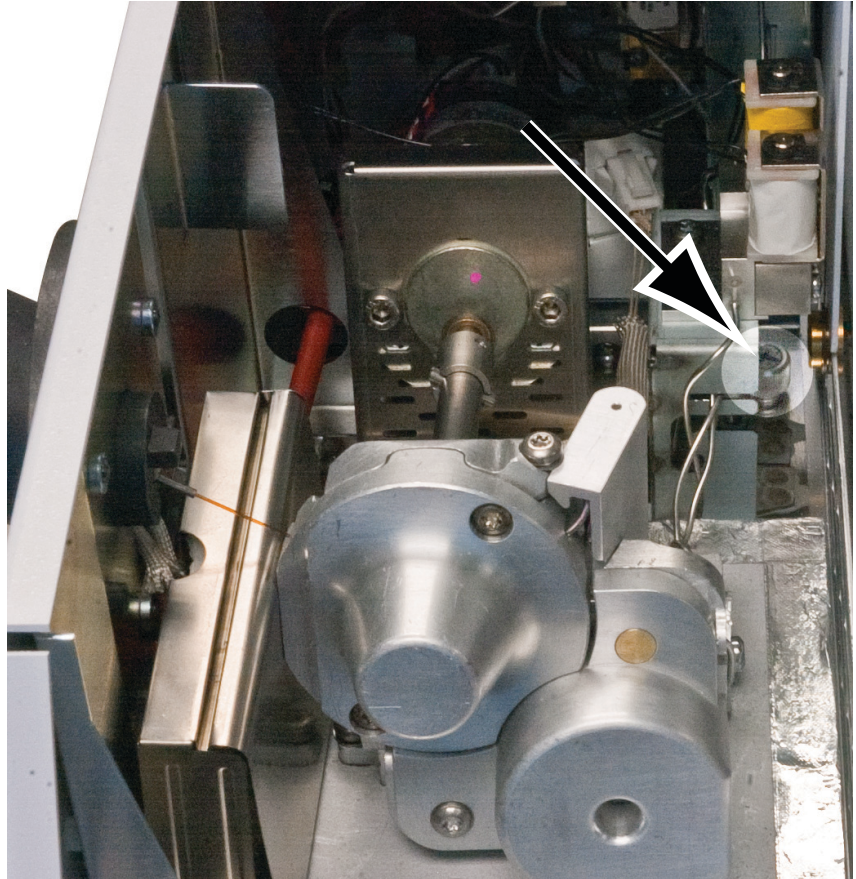

Figure 8 Overhead view of the middle thumbscrew securing the pneumatics assembly
- 8 Completely loosen the T-20 Torx captive thumbscrew at the middle of the pneumatics assembly near the two proportional valves (Figure 8).